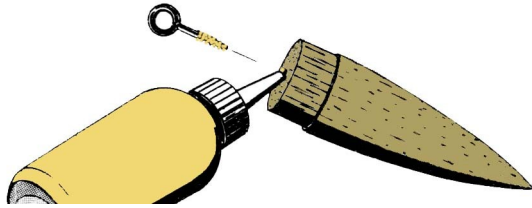

Figure 5
- **Step 8** As shown in Fig. 5, thread the screw eye into the center of the base of the nose cone, then remove the screw eye. Do not apply glue to the screw hole or to the screw eye threads at this time.